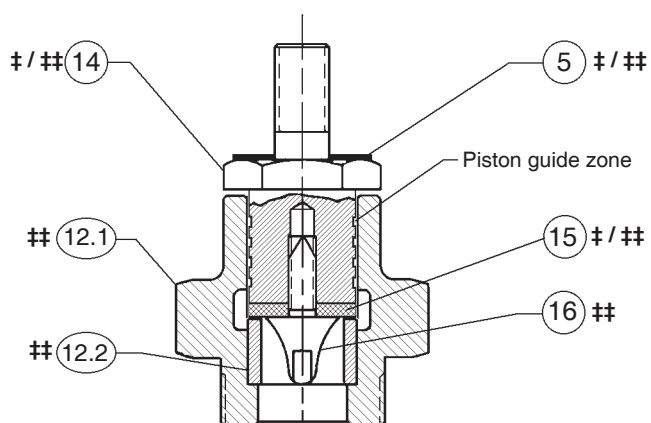

Figure 3: Composition Seat
2. Remove the cylinder sub-assembly (12) from the body (1) by rotating CCW.
c. At metal-to-metal surface between body (1) and cylinder (12). If wear exists here, consult factory.
d. Where the piston (24) ribbed guides bear (guide zone). See Figure 3.